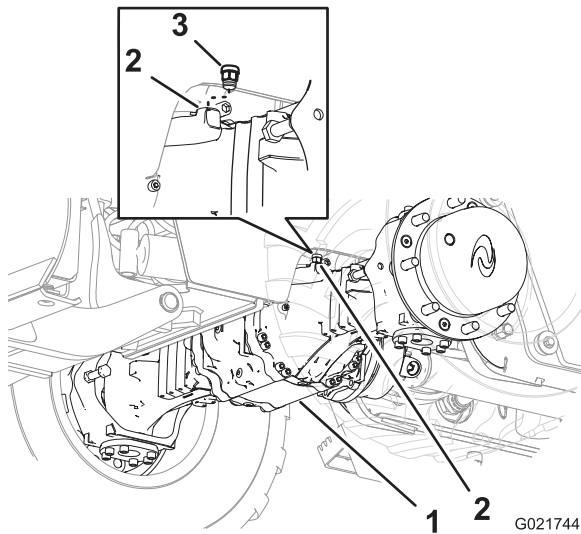
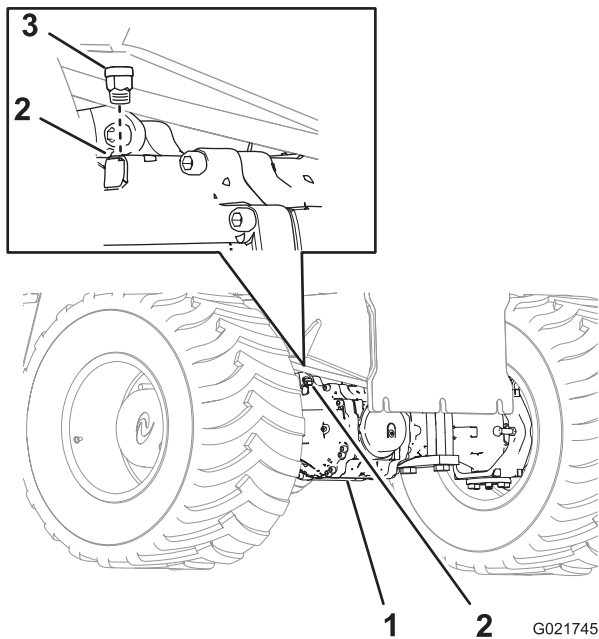

Figure 73
Figure 74
1. Clean the area around the breathers with a cleaning solvent (Figure 73 and Figure 74).
6. Install the breather in the front axle (Figure 73).
7. Install the breather in the rear axle (Figure 74).
2. Remove the breather from the front axle (Figure 73).
3. Remove the breather from the rear axle (Figure 74).